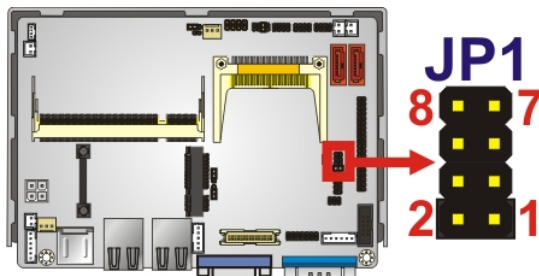

Figure 4-5: COM 2 Function Select Jumper Location
- Jumper Location:** See Figure 4-5
The COM 6 Function Select jumper location is shown in Figure 4-5.